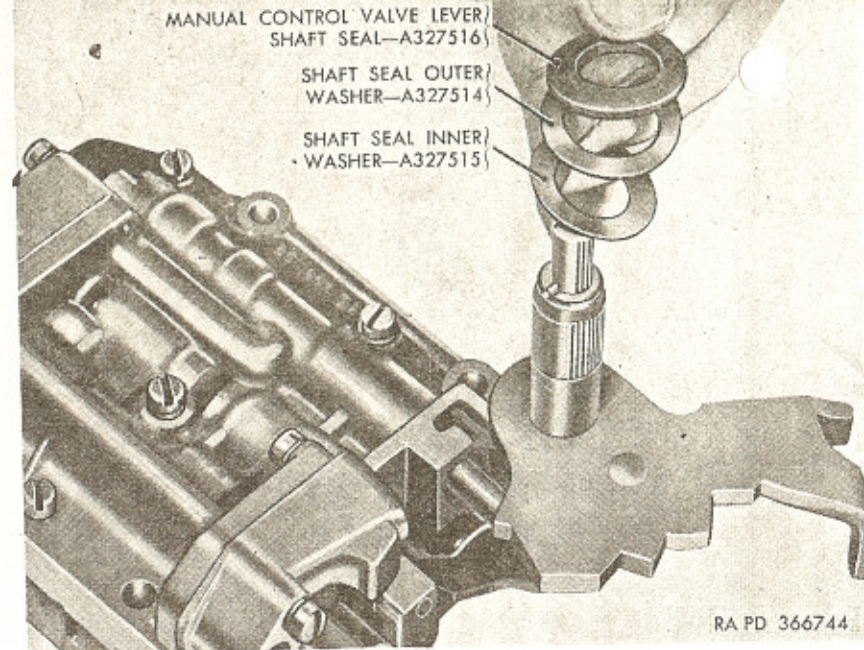

Figure 53. Removing or installing manual control valve shaft seal and washers.
b. Remove manual control valve lever shaft seal and shaft seal inner and outer washers from shaft (fig. 53).
t. Install manual control valve lever shaft inner washer (fig. 53) with small inside diameter over lever shaft, concave (dished side) up.
u. Install manual control valve lever shaft outer washer (fig. 53) with large inside diameter over lever shaft, concave (dished side) down.
v. Install manual control valve lever shaft seal over lever shaft with lip of seal extending into inside diameter of lever shaft seal outer washer (fig. 53).